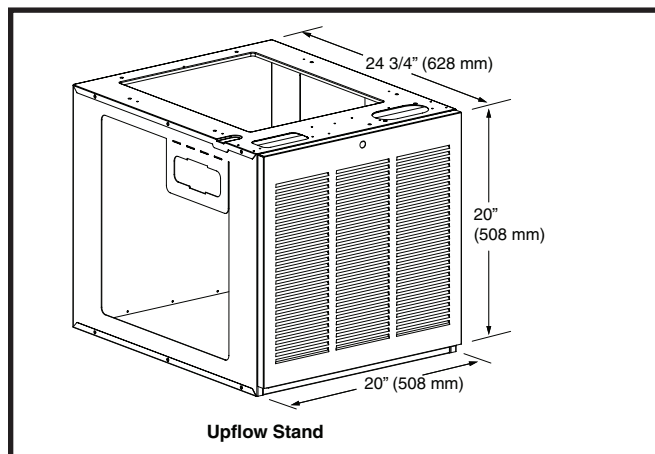

Figure 1. Optional Upflow Stand
- E7EM Models: Use a coil box with a solid door and an upflow stand (Figure 1 \(page 5\)). Part numbers can be found in the Technical Specifications Literature.
- Stand (Figure 1) will use filters provided with the unit. Remove any filters in the Appliance and follow proper installation. See instructions supplied with the upflow stand for additional details.